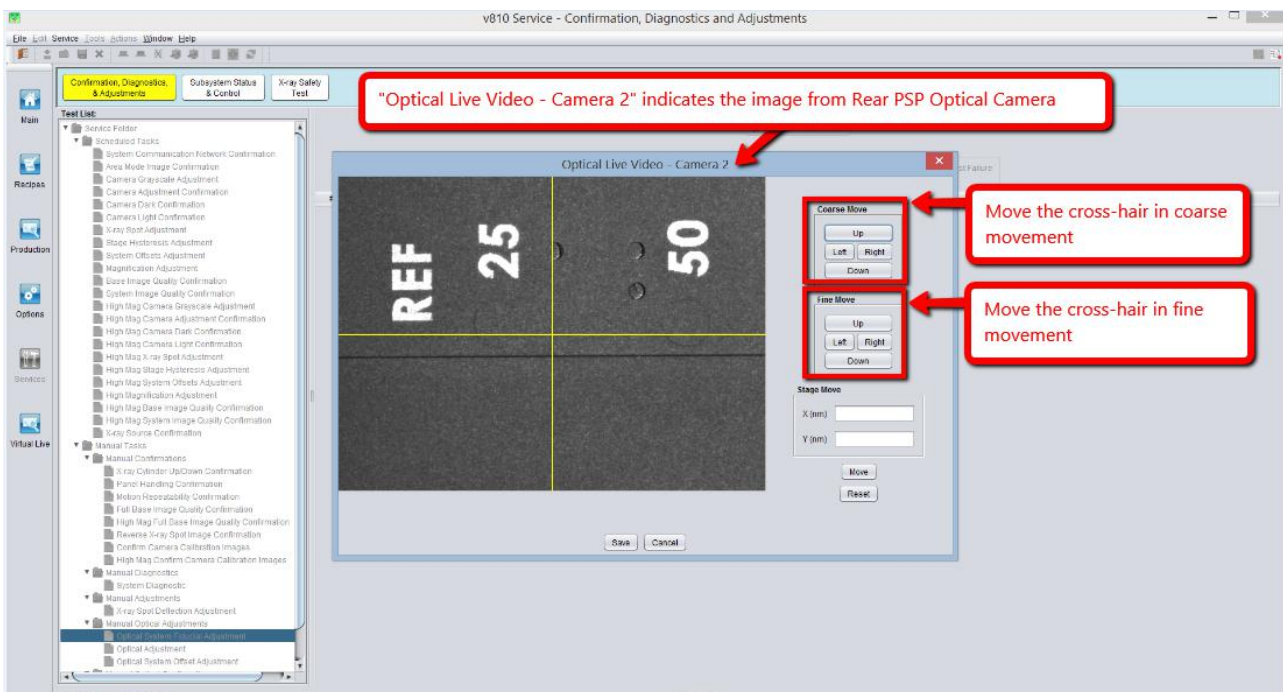

Figure 13 Rear PSP Optical Camera
12. After performing Step 11, the image from the Rear PSP Camera will be shown as in Figure 13.